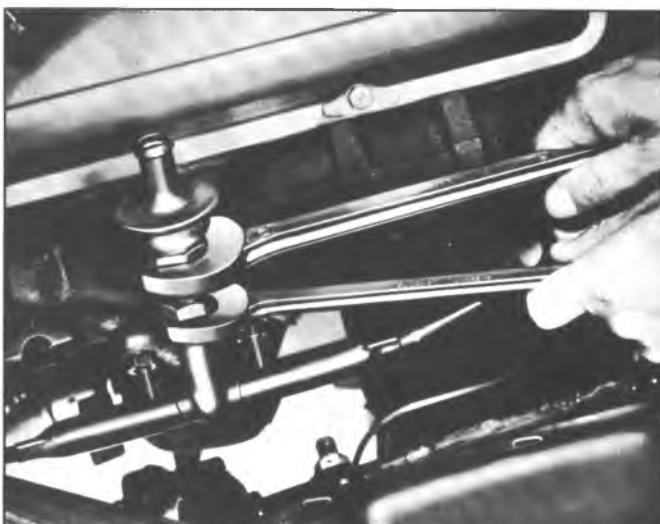

Fig. 22f—Removing Check Valve
- Disconnect pump outlet hose at check valve. Remove check valve from air manifold, being careful not to bend or twist air manifold (fig. 22f).